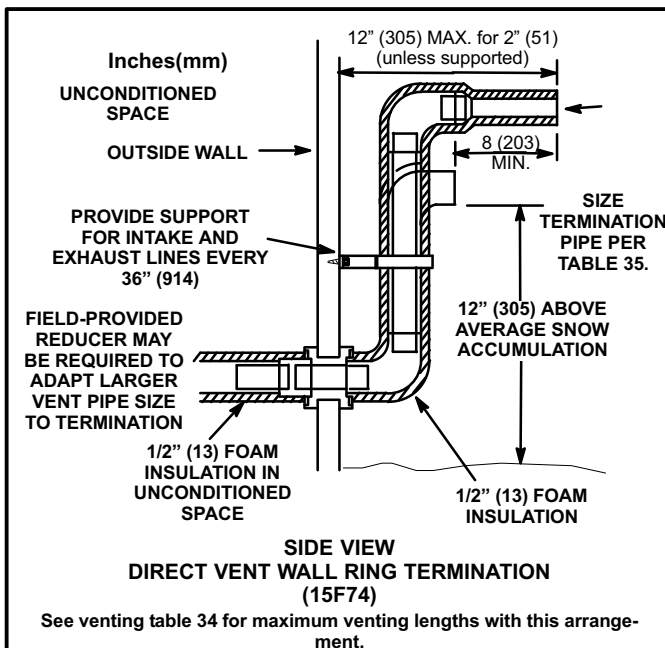
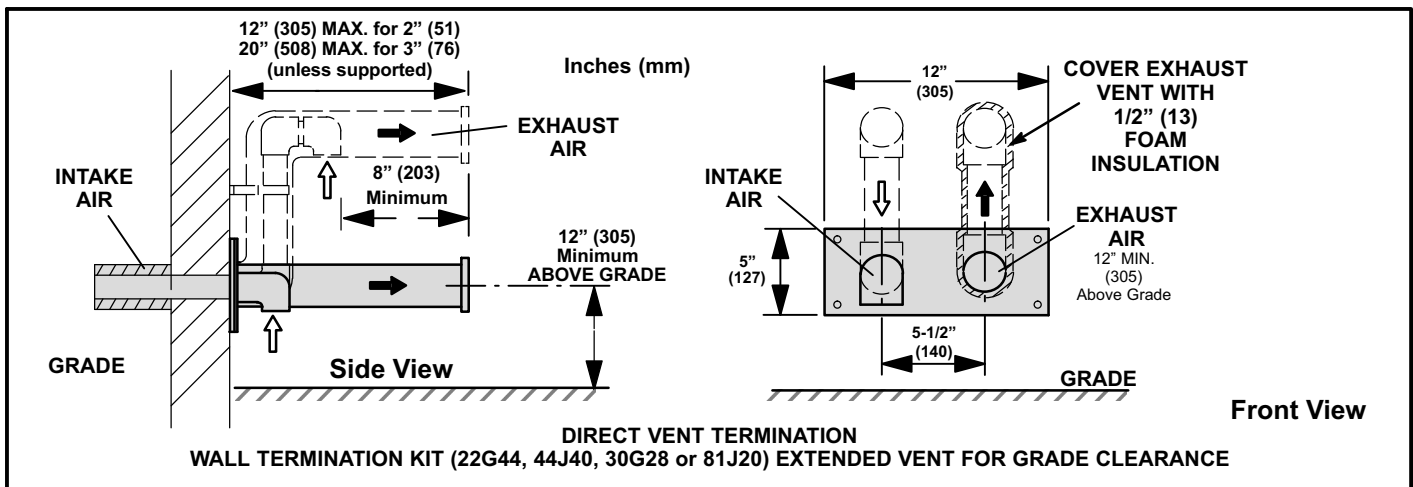

FIGURE 33
FIGURE 36
8. If intake and exhaust piping must be run up a side wall to position above snow accumulation or other obstructions, piping must be supported every 3 ft. (.9m) as shown in figure 21. Refer to figure 33 for proper piping method. In addition, WTK wall termination kit must be extended for use in this application. See figure 36. When exhaust and intake piping must be run up an outside wall, the exhaust piping must be terminated with pipe sized per table 35. The intake piping may be equipped with a 90° elbow turndown. Using turndown will add 5 feet (1.5m) to the equivalent length of the pipe.